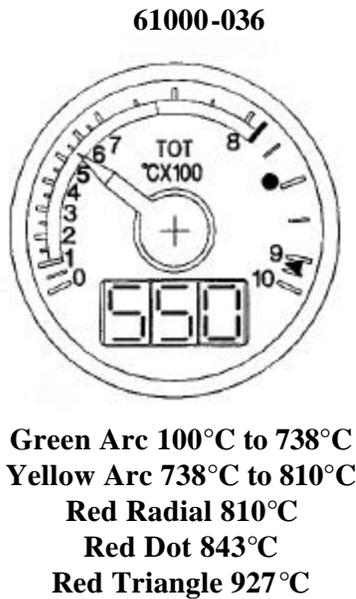
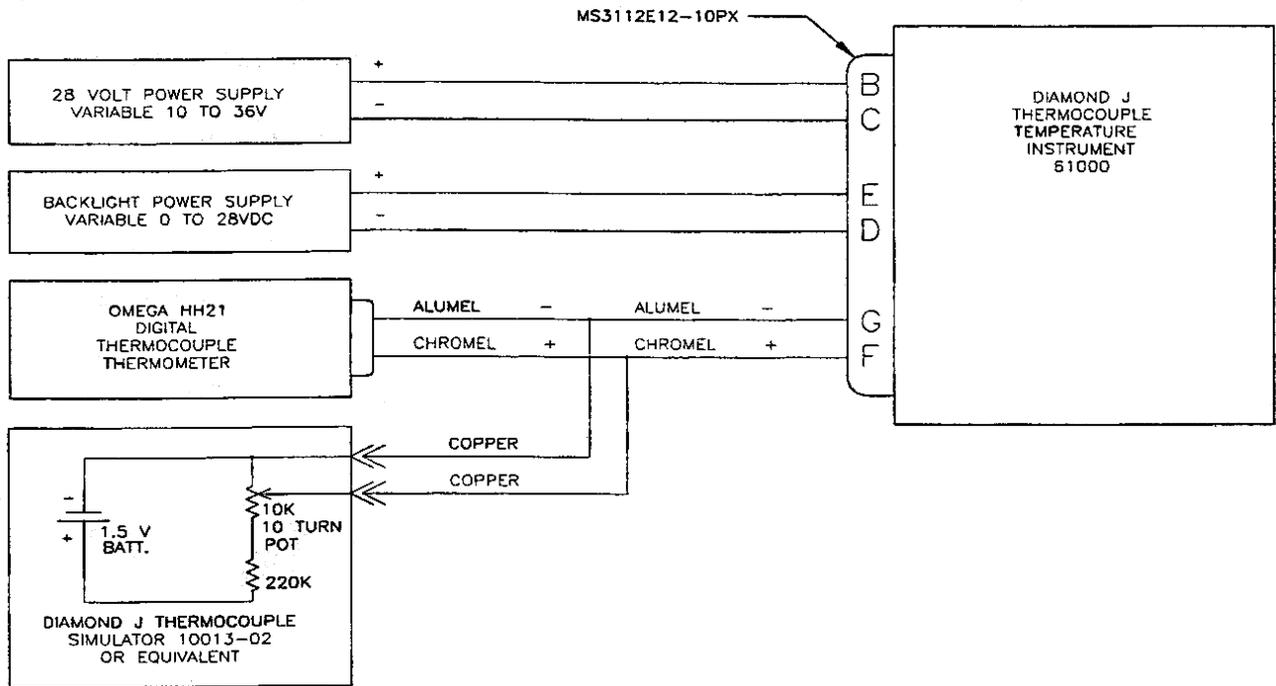

Figure 77-5. Thermocouple Temperature Display
Figure 77-7. Calibration Setup For Diamond J Model 61000
4. Connect the instrument, the calibration module, the test harness, and the pressure transducer per Figure 77-5.
The 61000-036 is two-inches in diameter by 6-3/4 inches long and weighs less than 0.9 lbs. Case and bezel color is black per FED-STD-595, No. 37038. Lens coating is anti-reflective per MIL-C-675. The instrument has a range of 0 to 1000°C and has both analog and digital read-outs as shown in Figure 77-5. See Figure 77-7 for details of the rear connector and pin outs.